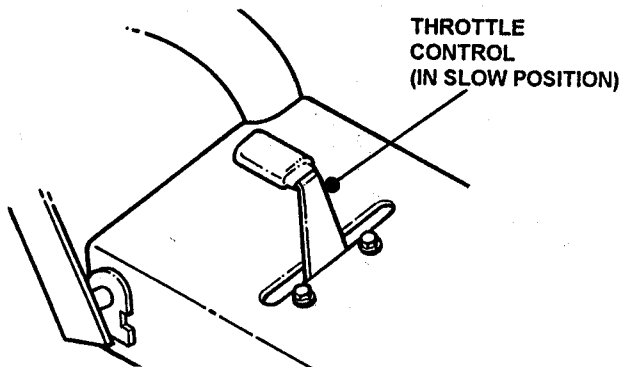

FIGURE 5
3. Move Throttle Control Lever to **SLOW** (turtle) position. See Figure 5.
4. Move Throttle Control Lever to **SLOW** (turtle) position. See Figure 5.
4. Move Throttle Control Lever to SLOW (turtle) position. See Figure 5.